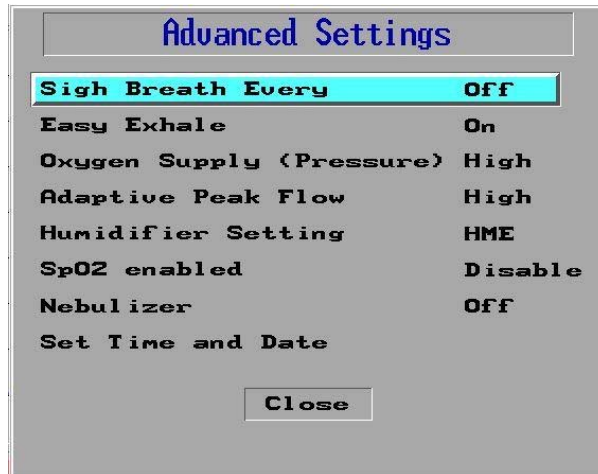

Figure 77: Sigh Breath Selected in the Advanced Settings Screen
2. In the **Advance Settings** screen select **Sigh Breath Every**. The current interval is shown in the right column of the screen (Figure 77).